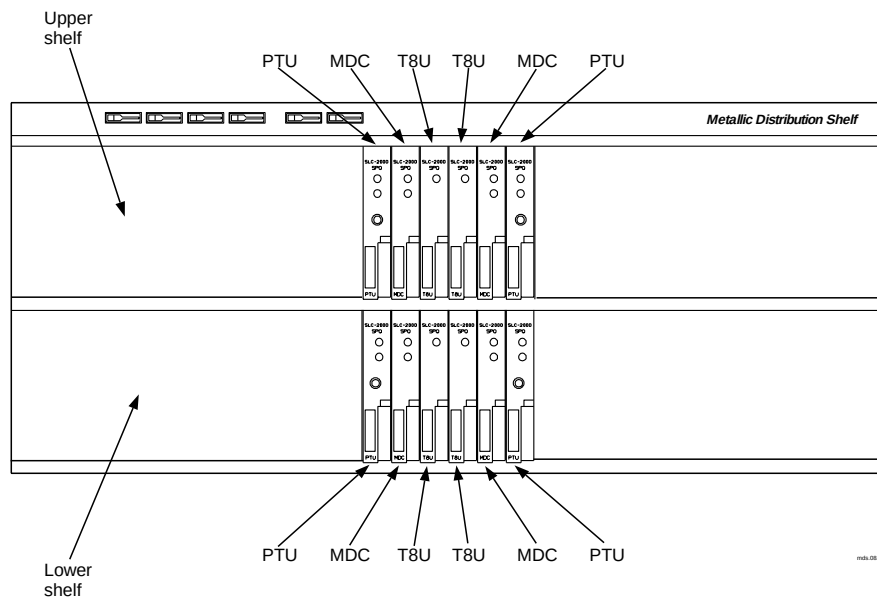

Figure 1 – Common Circuit Pack Locations (TR-08)
7. Choose either the upper or lower shelf of the MDS assembly to begin installing common circuit packs (Figure 1).